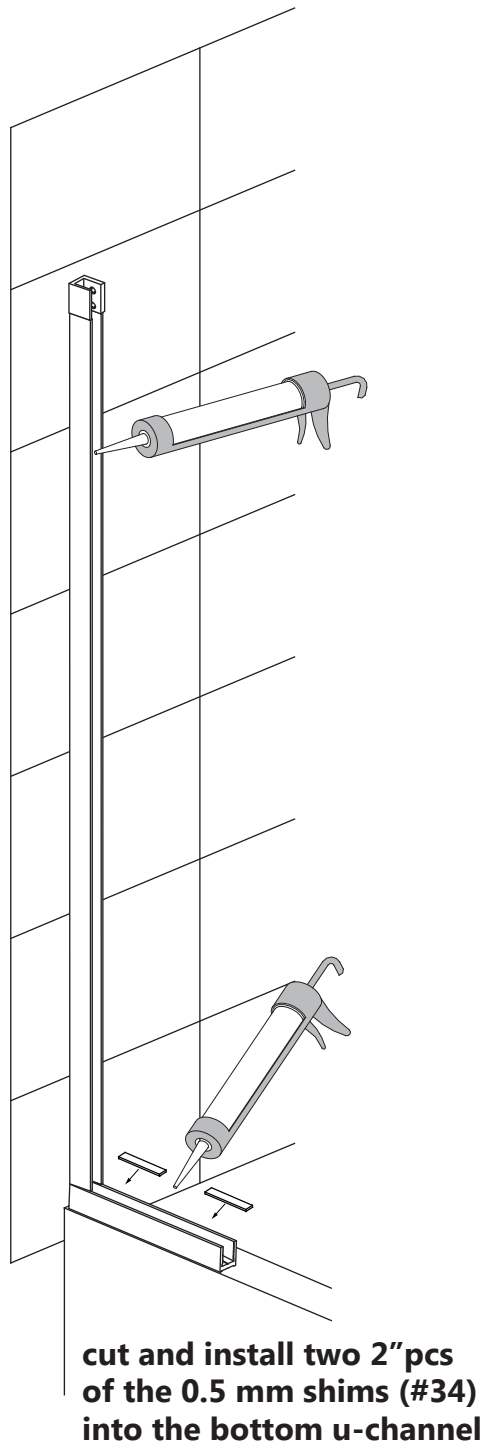

Fig 7
7. Add the 0.5mm shims into the bottom u-channel. Apply silicone into the u-channels. (**Fig 7**)